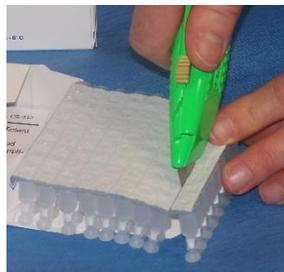

Fig 1
1.0 Separate the desired number of strips for use by cutting the foil between strips with a blade (Fig 1). Avoid bending the block of strips since this may weaken the foil seal and cause columns to dry out.